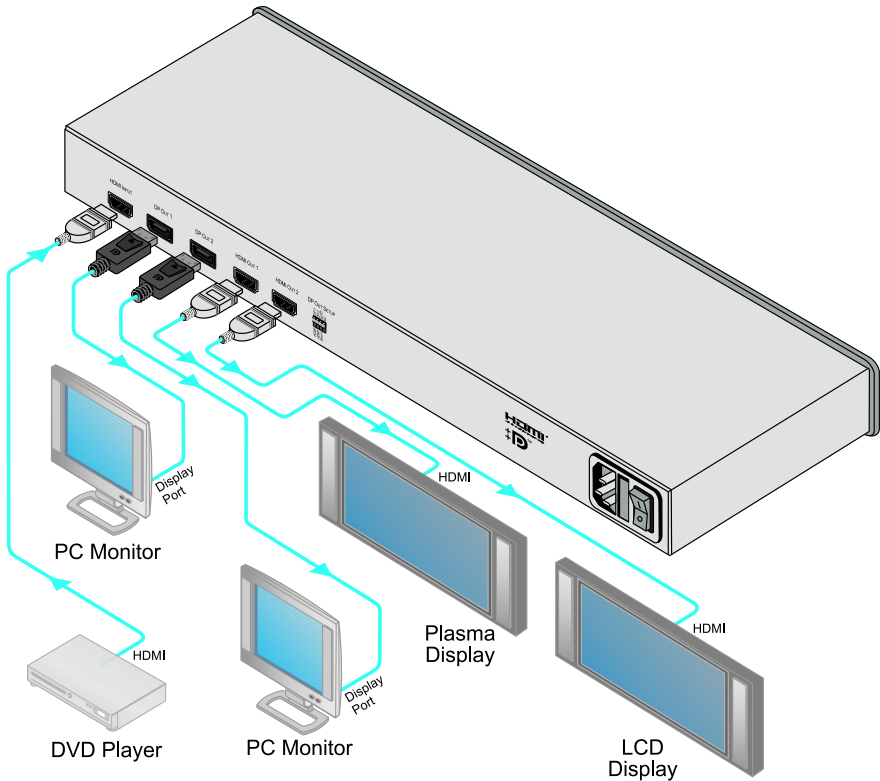

Figure 2: Connecting a VM-4HD 1:4 HDMI / DisplayPort Distributor
To connect the **VM-4DH**, as illustrated in Figure 2, do the following:
3. Connect the power cord to the mains electricity (not shown in Figure 2).